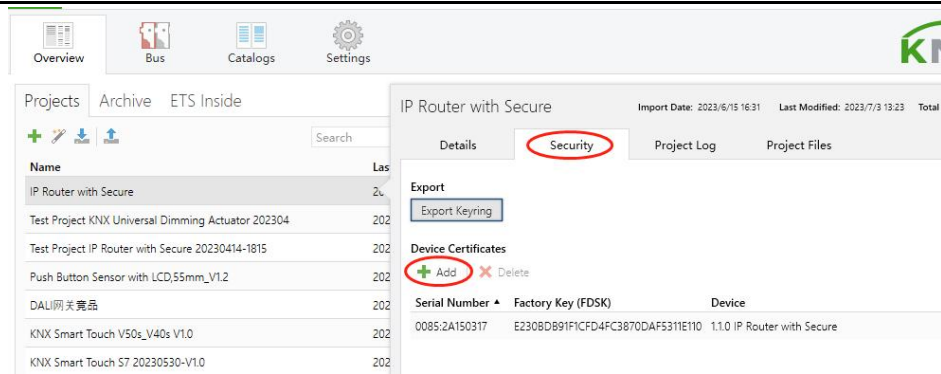

Fig. 5.5.2 Add Device Certificate in overview
- ❖ Alternatively, the certificates of all Secure devices can be entered in the ETS beforehand. This is done on the "Security" tab on the project overview page, as shown in Figure 5.5.2 below.